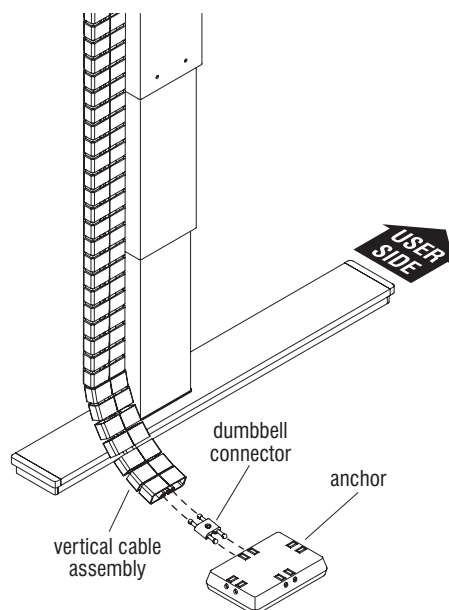

Figure 5
2. Place the anchor in the desired location on the floor. Snap the dumbbell connector into the desired connector holes on the anchor that the vertical cable manager will eventually attach to (Figure 5).
3. Take the end of the vertical cable manager assembly and snap it into the dumbbell connector on the anchor (Figure 5).